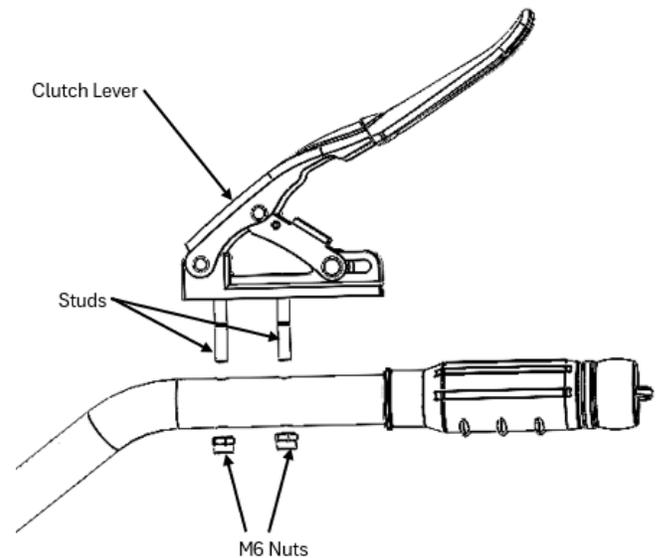

Figure 8
1. Install the Clutch Lever Studs into the two holes on the Handlebar (**Figure 8**).